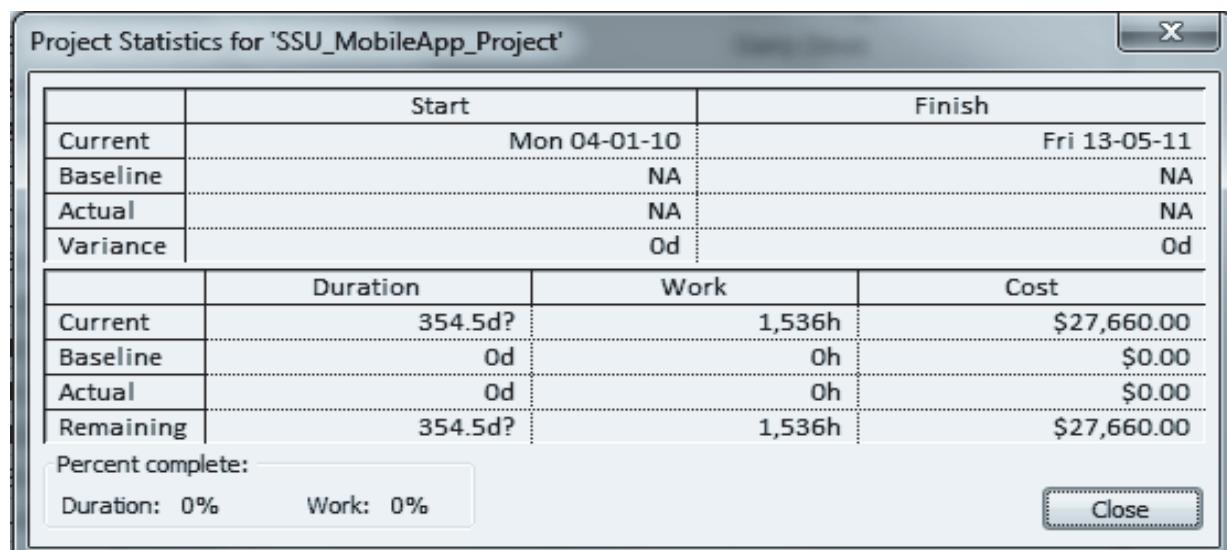

Figure 7.12: Project Statistics Dialog Box
2. Click the **Statistics** button to open the **Project Statistics** dialog box as shown in figure 7.12.